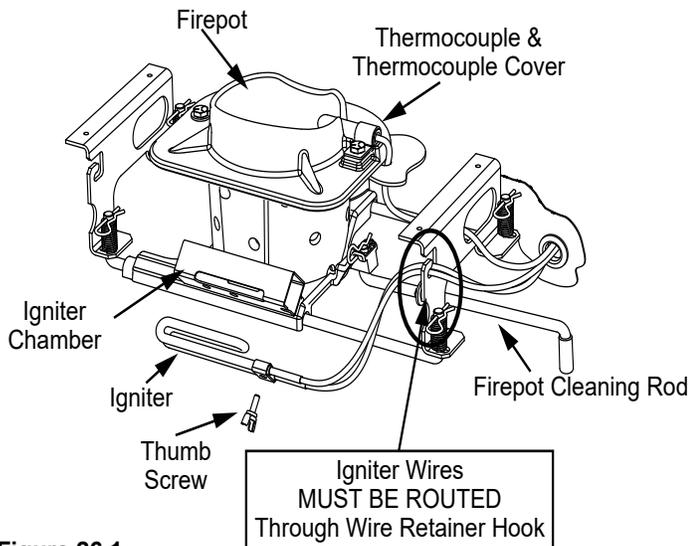

Figure 26.1
5. Install new igniter into the chamber and tighten thumb screw. The wires MUST route through the wire retainer hook and then re-connect the wires to the two (2) leads with the spade connectors (**Figure 26.1**).